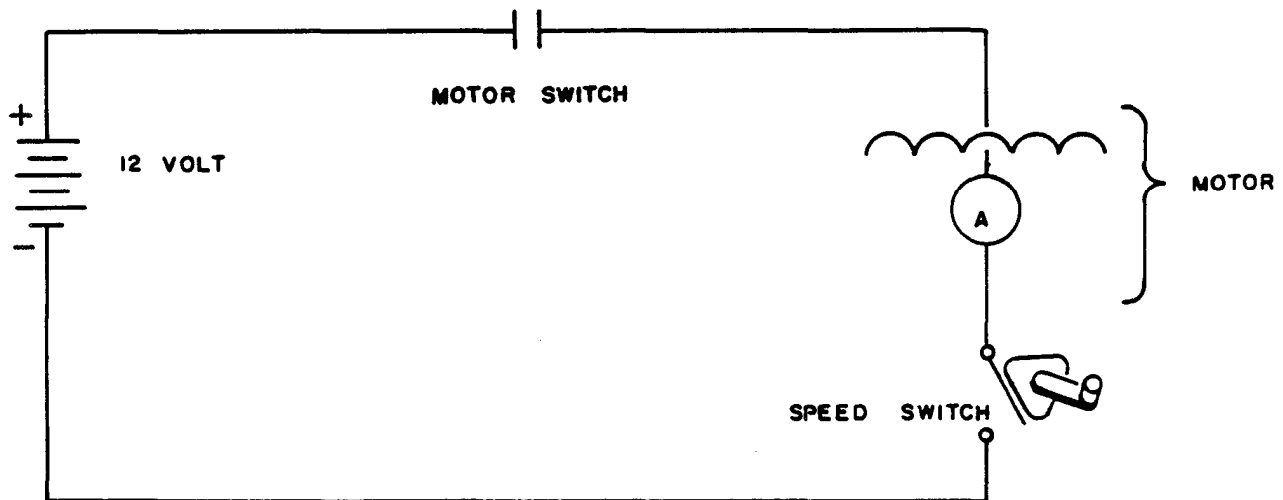

Figure 5-6 Circuit with Speed Switch
- 5-33 In Figure 5-6, the resistor and acceleration contactor have been replaced by a switch. If this switch was closed and opened at a predetermined frequency, the speed of the motor could equal the slow speed of the resistor truck (Paragraph 5-45), but without any power loss. Furthermore, this circuit allows the speed of the motor to be varied by opening and closing the switch at a faster or slower rate. This can be demonstrated by using a battery and voltmeter. Connect the negative lead of a meter to the negative terminal of a battery as shown in Figure 5-7. Then using the positive lead as a probe, quickly connect and disconnect the meter to the positive battery terminal. The voltage reading on the meter will be less than 12 volts even though the battery voltage is 12 volts. The longer the interval between connections and disconnection, the higher the voltage reading. If in a one second time interval, the voltmeter was connected three times and the respective readings were 4, 8 and 12 volts, the average voltage for one second would be 8 volts. Likewise, if the three voltage readings were 8, 10 and 12 volts, the average voltage would be 10 volts.